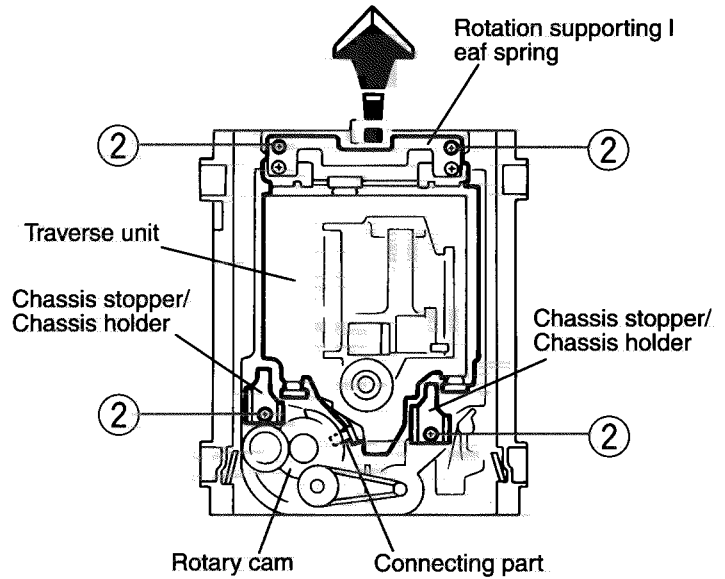

Fig. 6
■ Removing the Traverse Unit (See Fig.6)
2. Loosen the four screws ② attaching the traverse unit, and remove them together with the chassis stoppers / chassis holders.